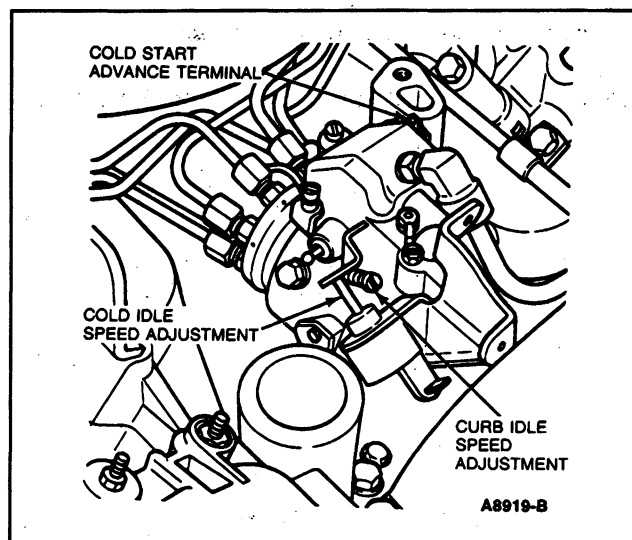

Figure 11: Idle Speed Adjusting Screw
5. Check low idle speed, using Rotunda 055-00108 or equivalent. Low idle speed is specified on the Vehicle Emissions Control Information (VECI) decal. Adjust to specification using idle speed adjusting screw (Figure 11).
6. Check fast idle speed setting. Fast idle rpm should be 825 ± 25 . Adjust to specification by turning solenoid plunger in or out (Figure 11).
4. Connect dynamic timing meter to battery and dial in minus 20 degrees offset on meter. Disconnect cold start advance solenoid connector from solenoid terminal (Figure 11).